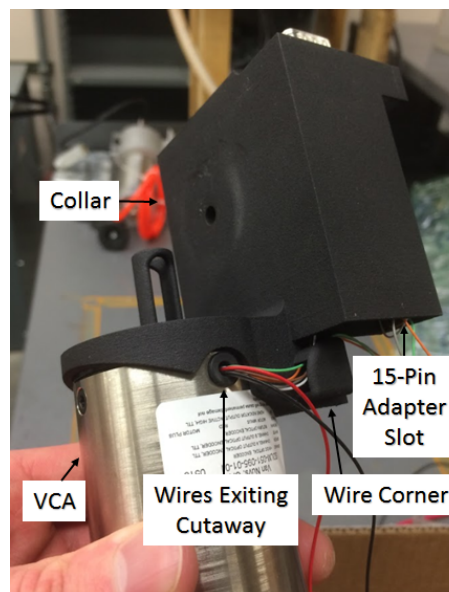

Figure 9. VCA wires exiting cutaway in collar
1. Attach the VCA to the collar using two of the VCA screws (3o). It is extremely important that the end of the VCA with the wires exiting is the end that is screwed into the VCA collar. Ensure that the wires exit the same side of the collar that the connector chip slot is on (Figure 9). There will be a cutaway in the collar where the wires can fit through.
2. Thread the wires from the VCA through the wire corner (Figure 9).